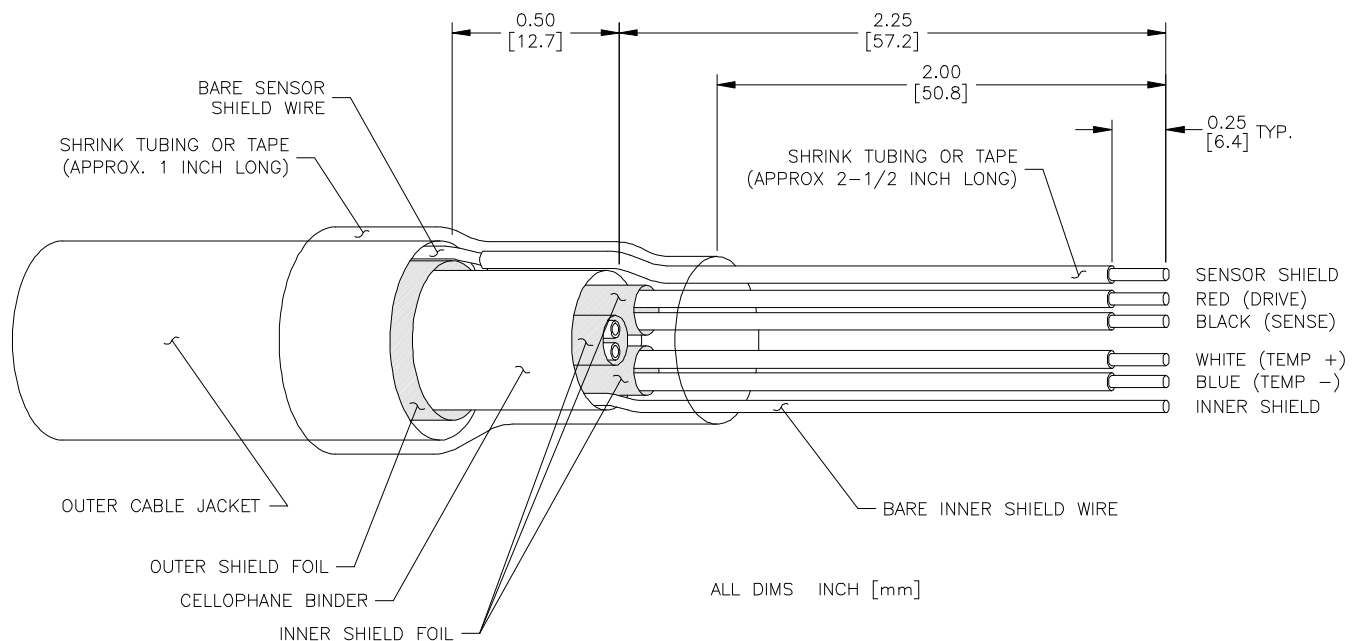

Figure 2-4 Interconnect Cable Termination Details
To correctly terminate the ends of the interconnect cable, refer to Figure 2-4 and follow this procedure:
5. Carefully position a 2-1/2 inch long piece of shrink tubing or tape on the bare sensor shield wire 1/4-inch from the end as shown in Figure 2-4 to insulate and distinguish it from the inner shield wire. Doing this exposes 1/4-inch of bare shield wire beyond the tubing or tape for connection purposes.
6. Carefully position a 1-inch long piece of shrink tubing or tape on the cable as shown in Figure 2-4 to secure all wires.